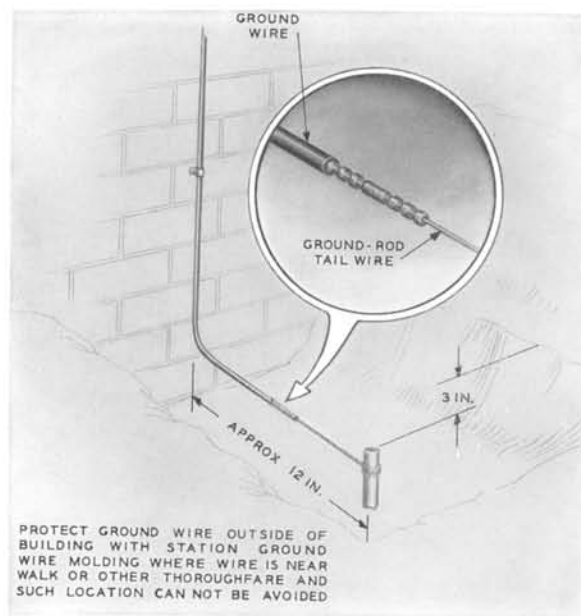

FIG. 4—GROUND ROD INSTALLATION NEAR WALL
- Approximately 12 inches from outside wall (see Fig. 4).